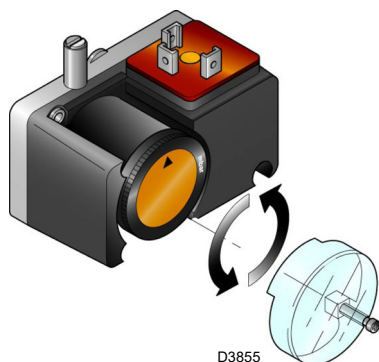

Fig. 35
- Adjust the minimum gas pressure switch (Fig. 35 at page 33) to the start of the scale.
- Adjust the pressure switch for the valve leak detection control device (PVP kit)(Fig. 35 at page 33), if present, according to the instructions supplied with the kit itself.
Adjust the pressure switch for the valve leak detection control device (PVP Kit) (Fig. 35), if present, according to the instructions supplied with the Kit itself.